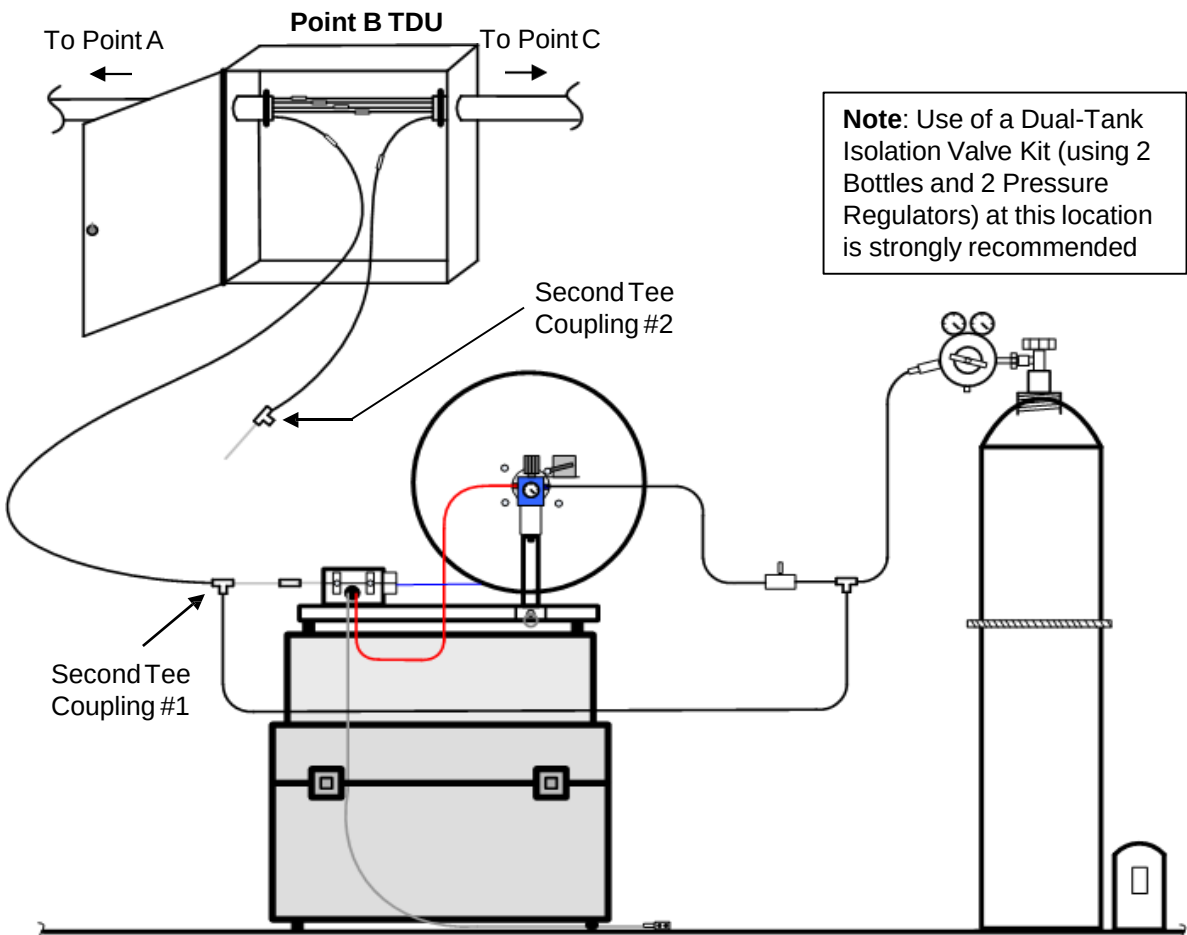
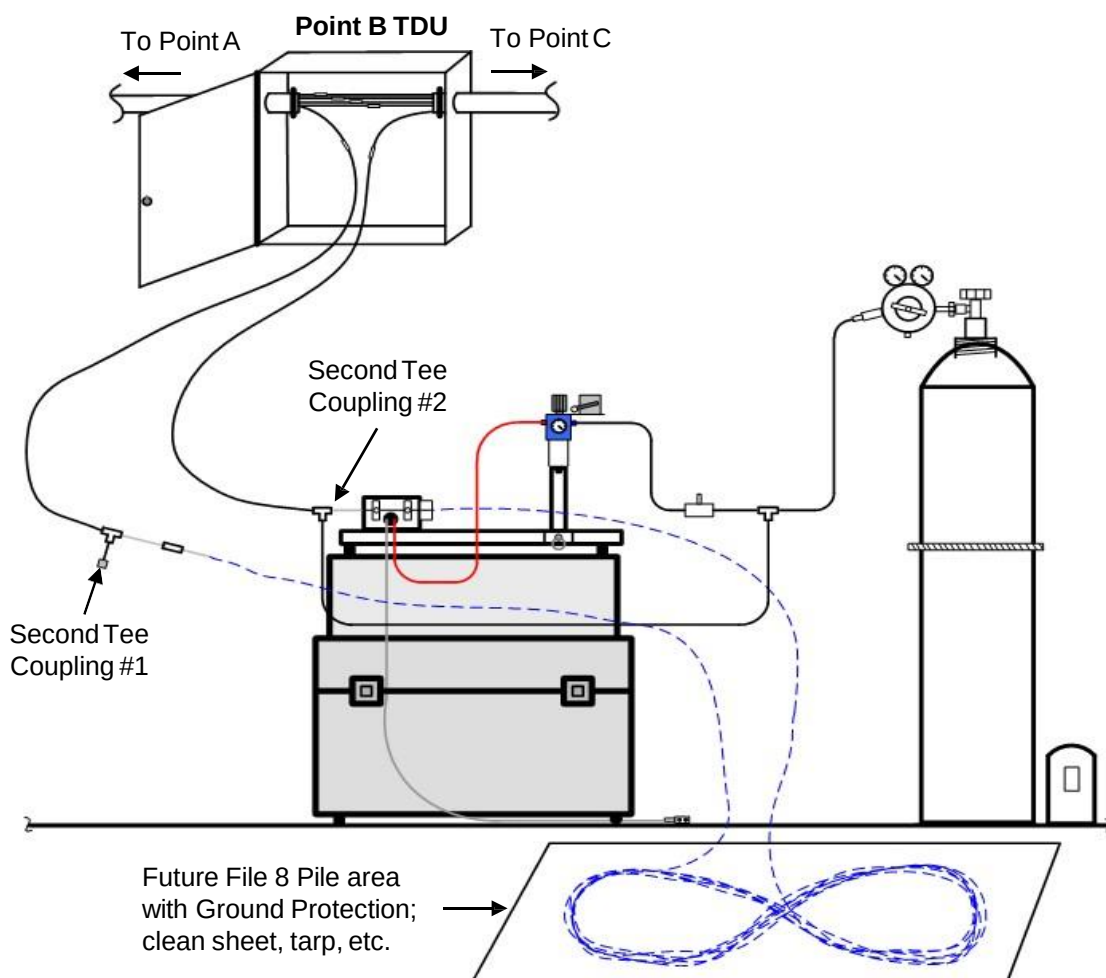

Figure 2
Figure 3
5.1 See Fig. 2 and Fig. 3 for a typical Mid-Span Blowing Equipment layout.